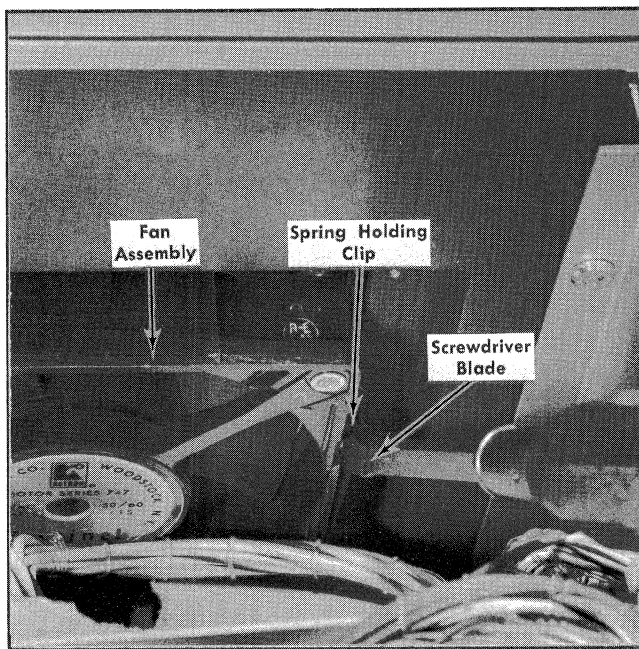

Fig. 4-7. Interior view, showing screwdriver inserted between Fan Assembly and holding clip.
3. From the interior of the instrument, depress the holding clip on one side by inserting a small screwdriver or other tool between the fan assembly and the clip (see Fig. 4-7). While the clip is depressed, pull the fan toward the rear with the other hand until it is clear of the holding fingers (about $\frac{1}{2}$ inch). At this stage, the fan assembly should be tilted from the centerline since the fingers on the opposite clip will still be engaged.